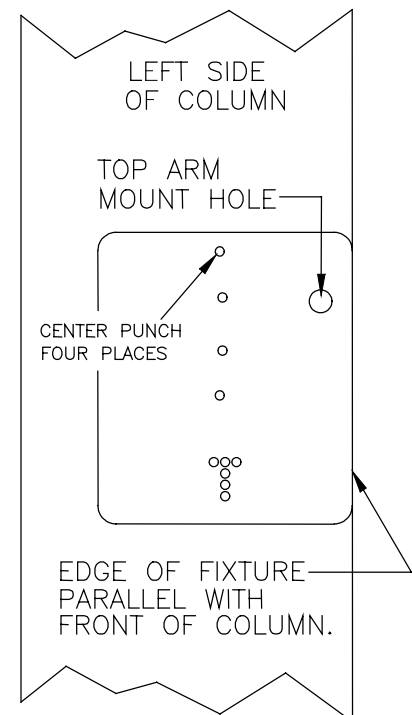

Figure 2
4. Pin the 5/16" hole in the top arm drill Fixture in the top arm mounting bolt hole using the arm mounting bolt. (See figure 2).
6. Center punch the four 1/8" hole locations on the column as shown. (See figure 2).